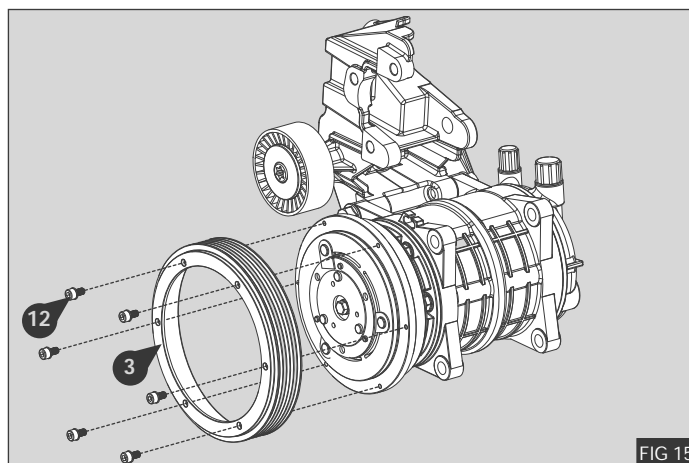

FIG 15
1. Install the compressor rotor (3) to the compressor using six M5 socket head set screws (12) and spring washers (13) - Fig 15
2. Torque M5 socket head set screws (12) to 7.1 Nm / 5.24 lb.ft - Fig 15